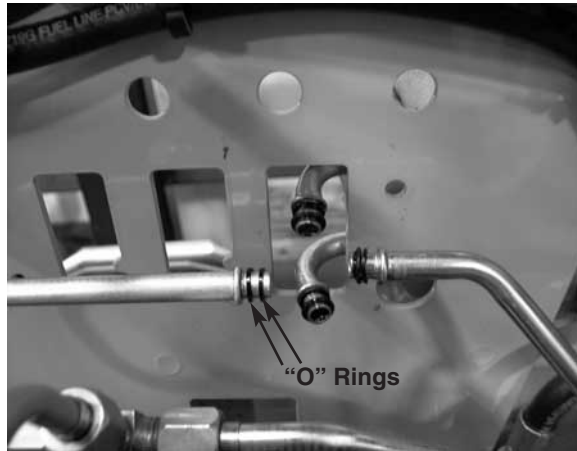

FIGURE 4.
11. Inspect the "O" rings for damage. If damaged, replace. See figure 4.